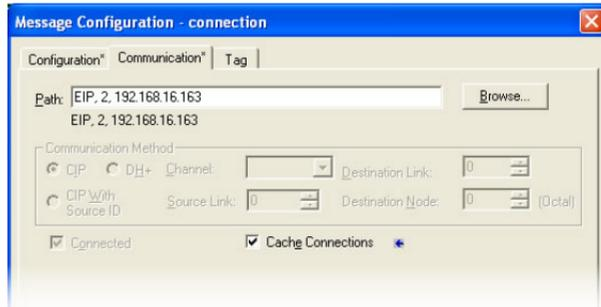

Figure 99: Setting the Communication Path
d) “Communication” tab settings (refer to Figure 99):